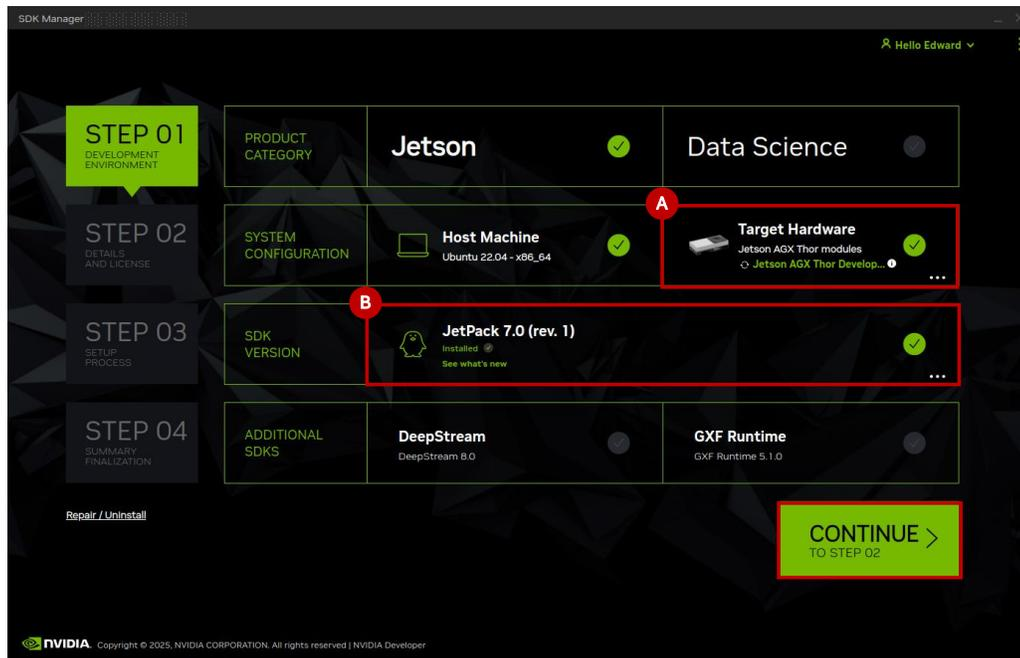

Figure 6.17. STEP 01 – Development Environment
8. Select **Jetson AGX Thor Development** as the **Target Hardware** (see letter **A** in Figure 6.17). Verify that the Jetson AGX Thor module is detected. If the module is not detected, repeat the Recovery mode step. Set the SDK version to **JetPack 7.0 (rev. 1)** (see letter **B** in Figure 6.17). Click **CONTINUE** to proceed to **STEP 02 – Details and License**.